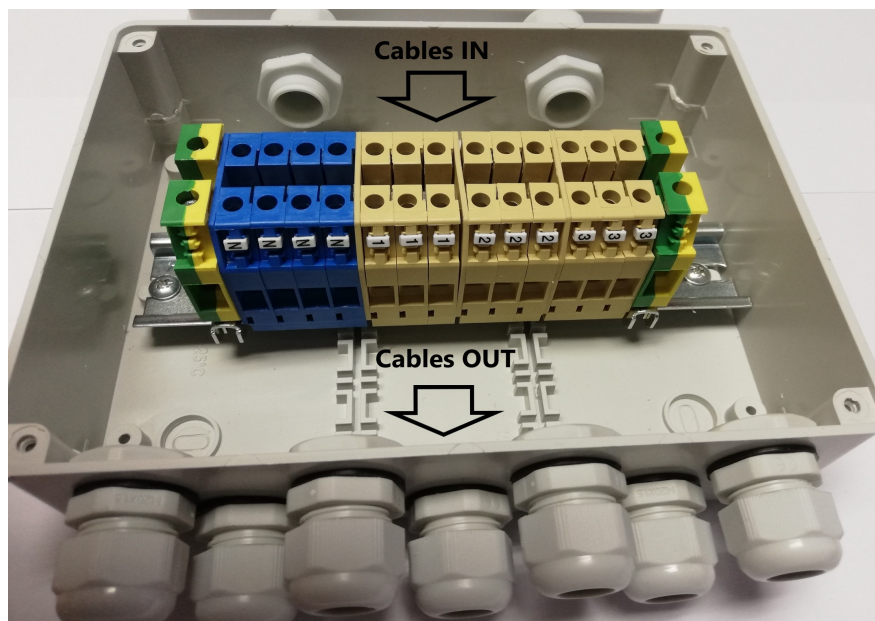

Fig 3
- b) Connect to an external distribution box. Connect O/P1 to terminals marked **1**, O/P2 to terminals marked **2** and O/P3 to terminals marked **3**. Connect the Neutral OUT to the blue terminals marked **N**. Connect the Earth to the green/yellow **Earth** terminals. Then connect the heaters to the other side of the terminals to the appropriate connections. **Live** connections to terminals **1,2&3**. **Neutral** connections to blue terminals **N** and **Earth** connections to the **Earth** terminals. See fig. 3